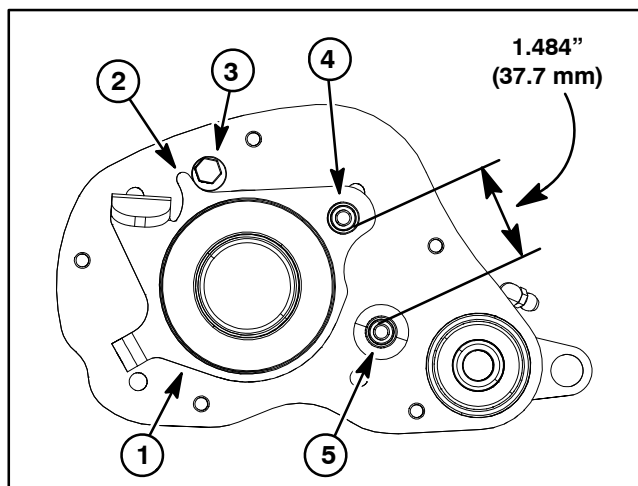

Figure 29
3. Check adjustment of adjustment cam (Fig. 29):